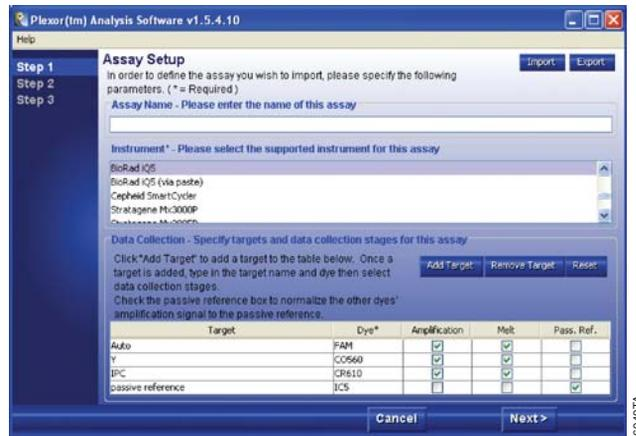

Figure 20. The Assay Setup screen when exporting and importing via Microsoft® Excel.
11. **Optional:** Enter an assay name in the Assay Setup screen, Step 1 (Figure 20). This screen is used to enter general information about the type and format of the data that will be used for each assay.